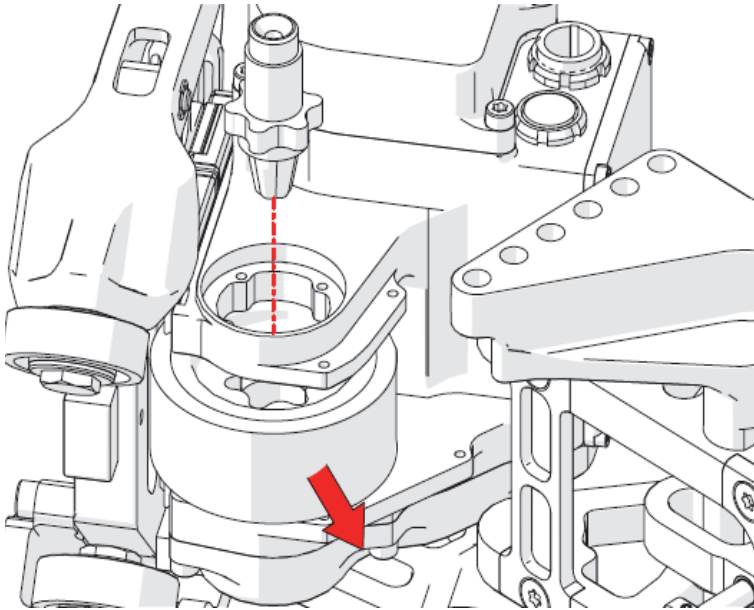

Figure 2-22 Remove the axle and wheel
24. Remove the axle from the drive wheel through the axle arm (see Figure 2-22 on page 98).
25. Remove the worn drive wheel (see Figure 2-22 on page 98).